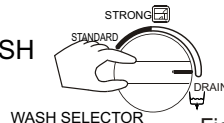

Figure 5
6. After washing, the buzzer will ring. Set the "WASH SELECTOR" at "DRAIN". (Figure 5).